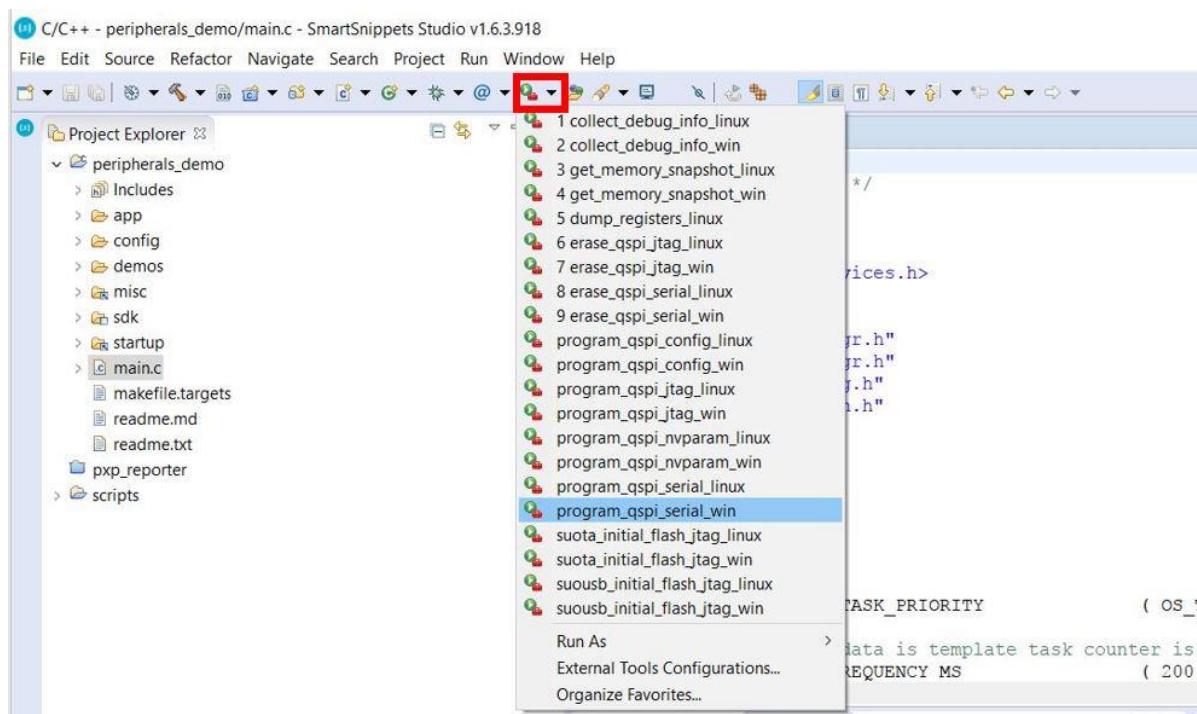

Figure 20: Program the QSPI Flash
- Under the **External Tool Configurations** menu, click on the `program_qspi_serial_win` option as shown in Figure 20 (Or **Run > External Tools > program_qspi_serial_win**).